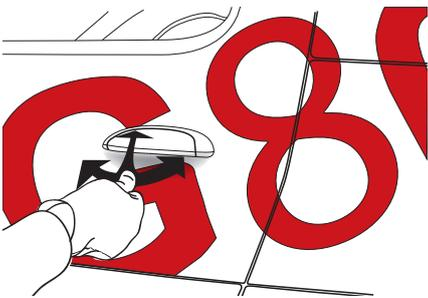

Figure 07
- › Apply the film with your finger, carrying out movements from the centre towards the borders. The application is done from the edges of the deformation towards the hollow. (FIG. 07)